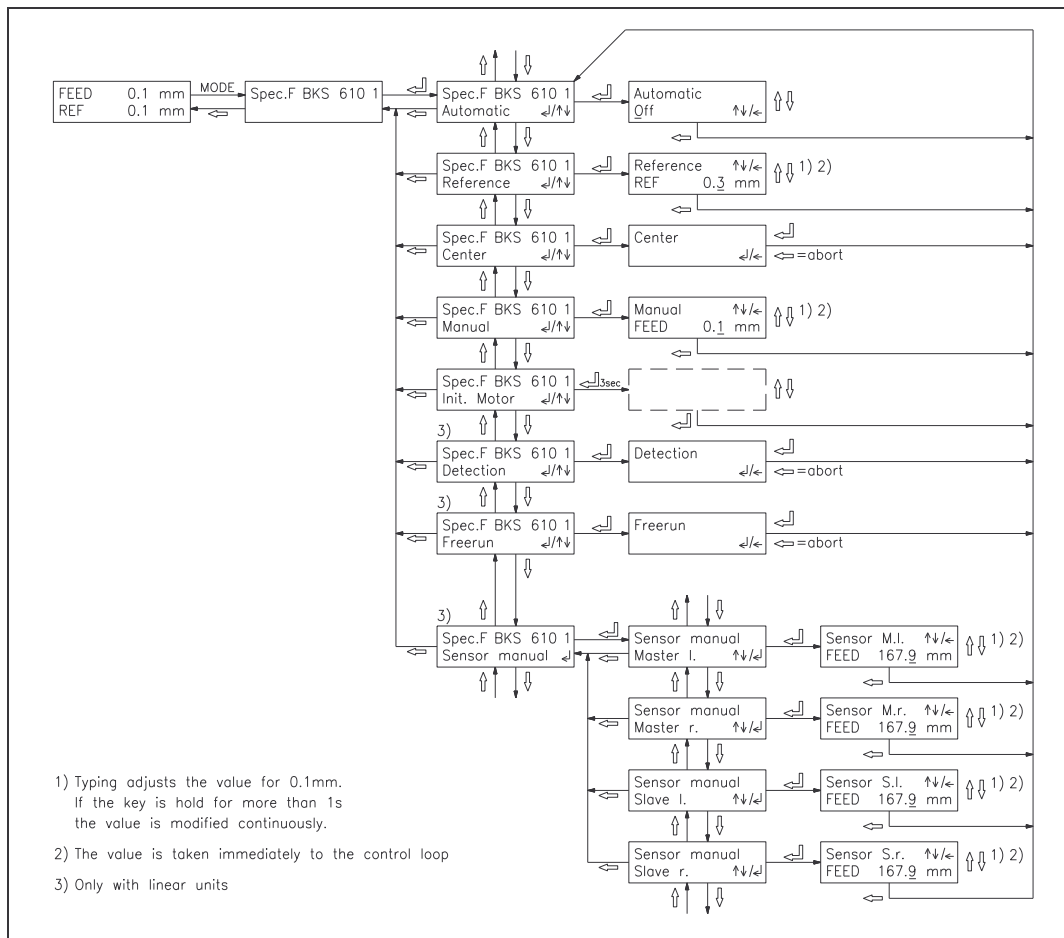

fig. 16: Main operating menu BKS610
The special functions (ref. to fig. 16) provide the following possibilities for manual operation:
- Start automatic mode with special function *Automatic* (fig. 16) or digital input. The control LED *Auto* lights up. Reference position for the slave web is taken from the master web position. The controller starts to guide the slave web to reference position and to hold this guide point.
- The slave web position can be adjusted during automatic operation with the special function *Reference* (fig. 16) or using digital inputs (step width 0.1mm). With the ↑ key, the web moves out of the sensor; with the ↓ key, the web moves in. Using center guide, this description applies to the right sensor.
- Quit automatic mode with calling the special function *Automatic* again (fig. 16). The control LED *Auto* goes off.
- If no edge is found, a detection can be started with special function *Detection* (fig. 16) or by digital input. The master web linear units then search for the edge. At the same time the detection for the slave web edge is proceed.
- Start automatic operation with special function *Automatic* (ref. to fig. 16) or digital input. The control LED *Auto* lights up. Reference position for the slave web is taken from the master web position. The controller starts to guide the slave web to reference position and to hold this guide point.
- The slave web position can be adjusted during automatic operation with the special function *Reference* (fig. 16) or using digital inputs (step width 0.1mm). The sensors will follow the web edge automatically.
- Execute special function *Freerun* (fig. 16) to move the sensors to the reference positions of the linear units.